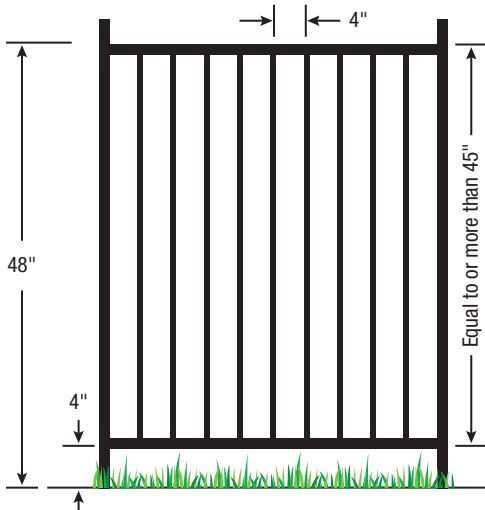

Figure 1
1. The **top of the barrier** should be at least 48 inches above the surface measured on the side of the barrier which faces away from the swimming pool (figure 1).
2. The maximum **vertical clearance between the surface and the bottom of the barrier** should be 4 inches measured on the side of the barrier which faces away from the swimming pool. In the case of a non-solid surface, grass or pebbles, the distance should be reduced to 2 inches, and 1 inch for removable mesh fences (figures 1 and 10).